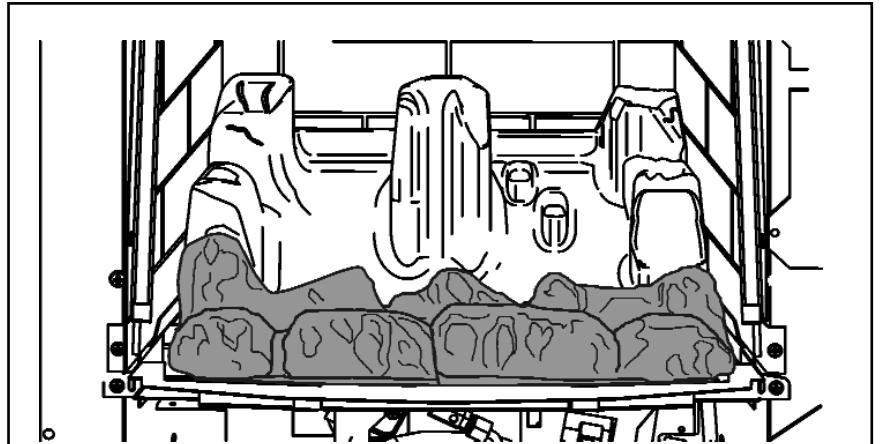

Figure 3. Front right ceramic coal location
**3.** Locate the right hand front ceramic as in figure 3 so that its front edge rests against the rear of the burner baffle. Insert the bottom right hand corner first. There should be no gap between the left and right hand front ceramics.